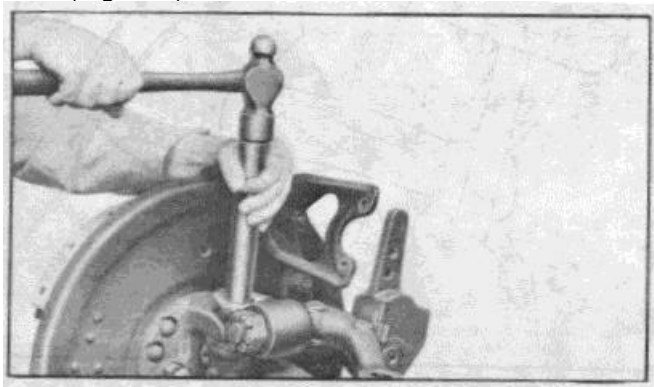

Figure 6
D. Tap out the knuckle pin by use of a bronze drift (Figure 6).